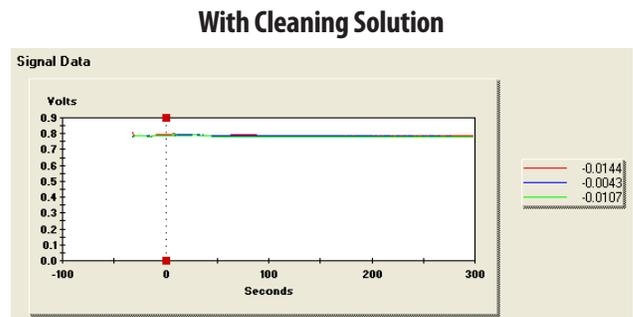

Figure 3B. No residual label.
6. To ensure that the injection syringe barrel is clean, run three rinses with the buffer of choice, selecting all lines. Traces should look similar to the ones seen in **Figure 3B**.